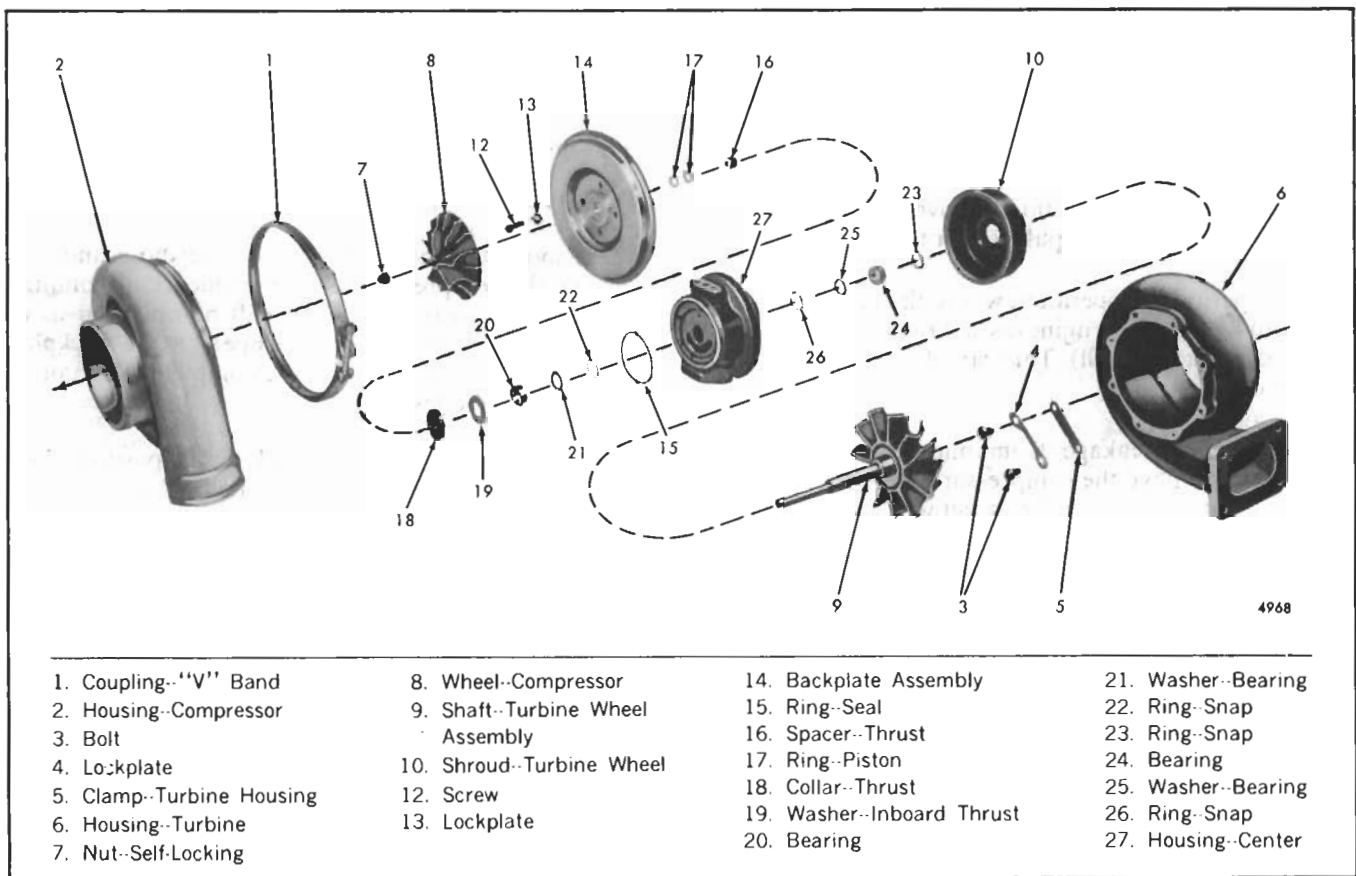
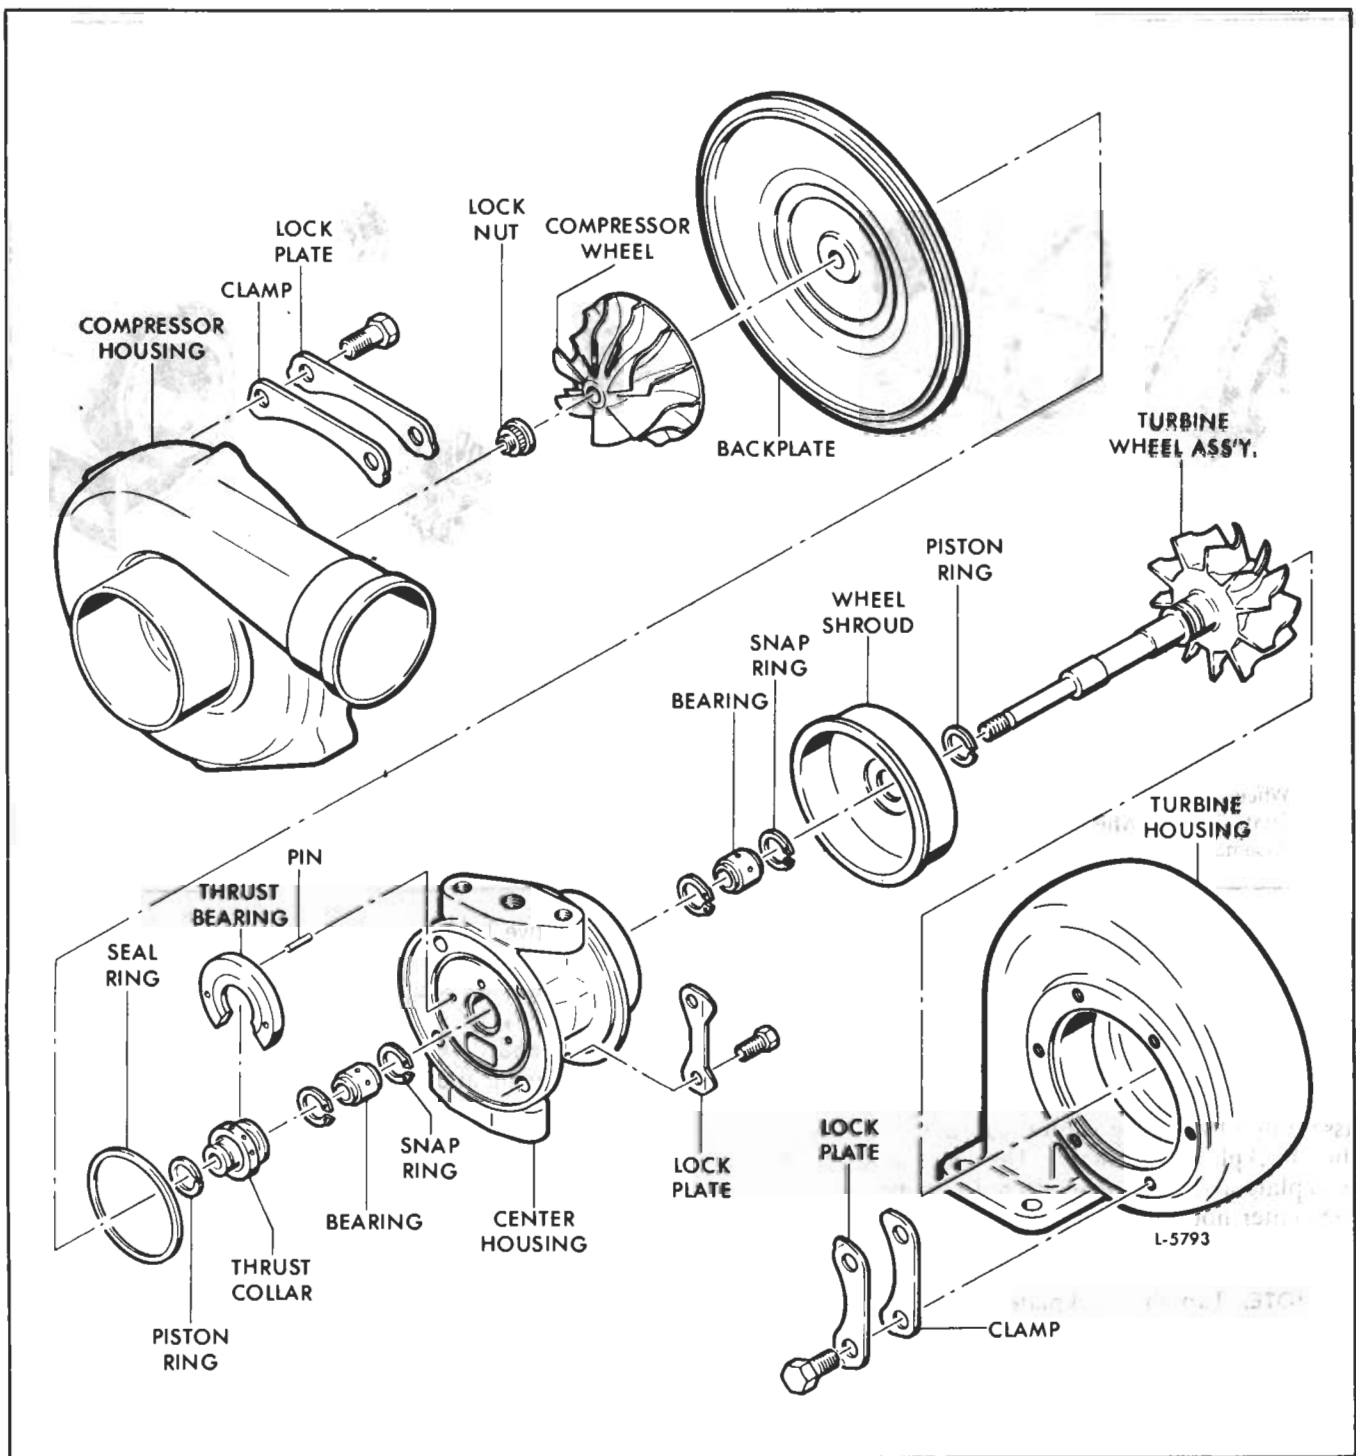
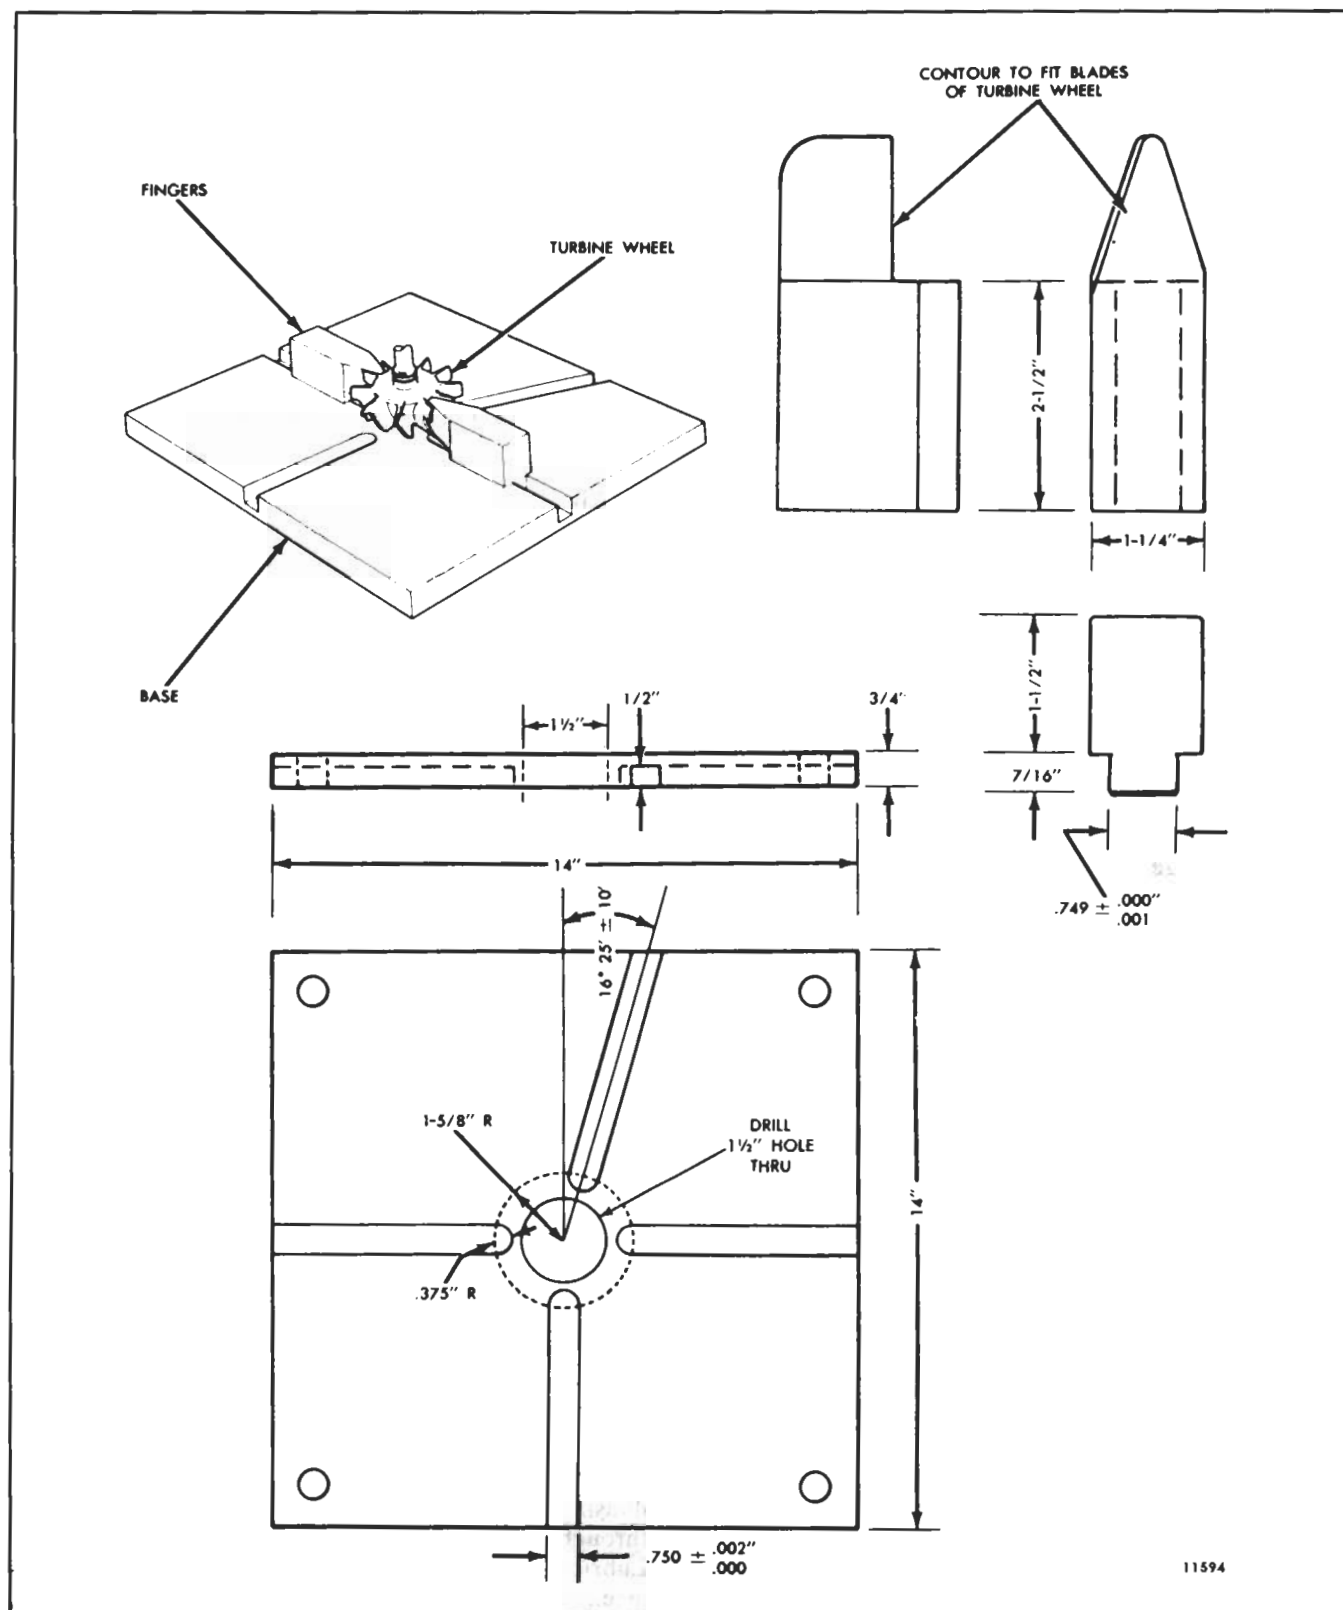

Fig. 6 - T18A40 and T18A90 Turbocharger Details and Relative Location of Parts
Fig. 8 - T04B Turbocharger Details and Relative Location of Parts
Fig. 9 - Turbocharger Holding Fixture
1. Refer to Fig. 6 or 7 and loosen the "V" band coupling (1) securing the compressor housing (2) to the backplate assembly (14) and remove the compressor housing and "V" band. Refer to Fig. 8 and remove the bolts and lockplates securing the compressor housing to the backplate assembly and remove the compressor housing.
2. With the T18A40, T18A90 and T04B turbochargers, bend down the ends of the lockplates (4) and remove the eight bolts (3) securing the four lockplates and turbine housing clamps (5) to the center housing (27) and turbine housing (6). With the TV81 turbocharger, loosen the "V" band coupling (28) securing the turbine housing (6) to the center housing (27). Remove the turbine housing from the center housing.
3. Position the turbine wheel (9) of the center housing assembly in a suitable holding fixture (Fig. 9). Remove the wheel nut (7) from the shaft.
4. Lift or press the compressor wheel (8) from the wheel shaft assembly (9).
5. **Withdraw the wheel** shaft assembly (9) from the center housing. The wheel shroud (10), which is not retained, will fall free when the wheel shaft is removed.
Refer to Figs. 6 and 7 for parts orientation and proceed as follows:
center housing and backplate upright in a suitable holding fixture as shown in Fig. 9.
Refer to Fig. 8 for parts orientation and proceed as follows:
6. Place the turbine wheel shaft assembly, shroud and center housing upright in a suitable holding fixture as shown in Fig. 9.